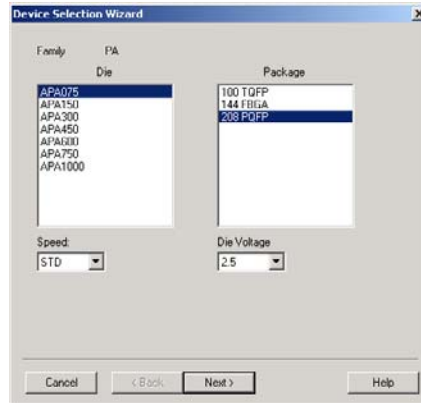

Figure 2-22. Device Selection Wizard
2. Compile the design. Click **Compile** in the **Design Flow** window. This starts the DSF (**Device Selection Wizard**) shown in Figure 2-22.